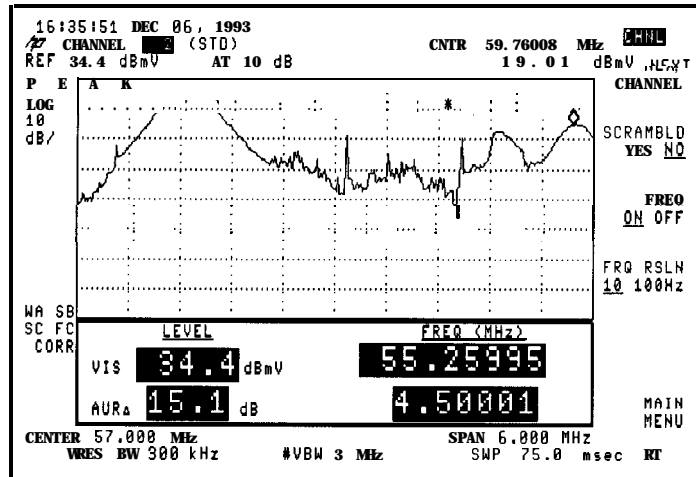

Figure 2-8. 10 Hz Resolution
3. Press FRQ RSLN 10 100 Hz to select between the readout resolution of 100 Hz or 10 Hz. 100 Hz is the default setting as 10 Hz significantly slows down the measurement. See Figure 2-8.